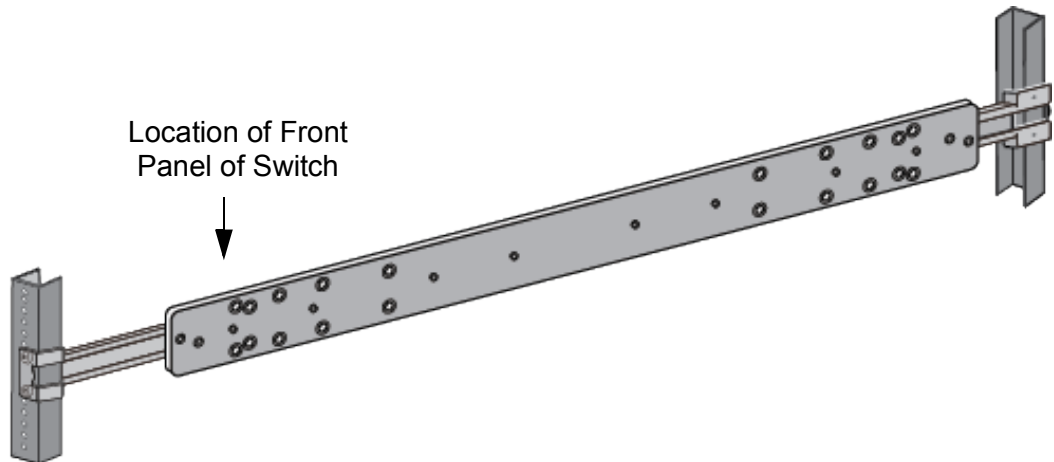

Figure 105. Example of Positioning the Inner Rail
2. Position the inner rail at the planned location for the front panel of switch in the sliding rack. Refer to Figure 105.